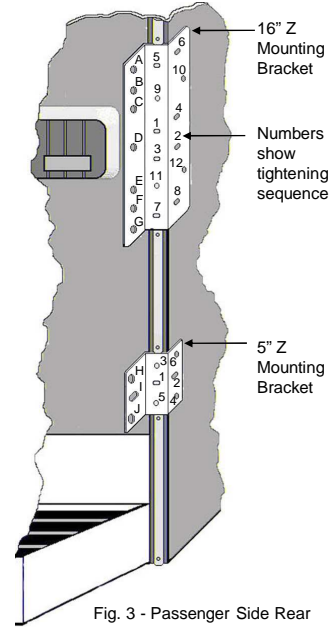

Fig. 3 - Passenger Side Rear
- Determine the proper location for each bracket (see fig. 3). Brackets must be placed vertically at a point where the foot of the jack just extends below the bottom of the camper when fully retracted. NOTE: Alignment of the 16" & 5" brackets is critical. A good way to ensure proper alignment is to bolt both to the jack and then set in place and mark location.